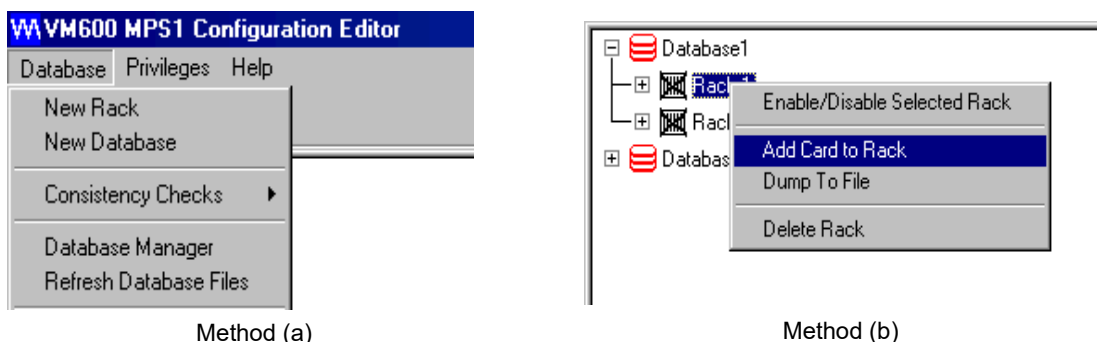

Figure 5-4: Adding a rack to a database
- a. Choose the **New Rack** command from the **Database** drop-down menu as shown in Figure 5-4 (a)
- b. Alternatively, select the database name in the configuration tree structure using the left mouse button. Then, right-click to obtain the shortcut menu shown in Figure 5-4 (b). Choose the **New Rack** command.